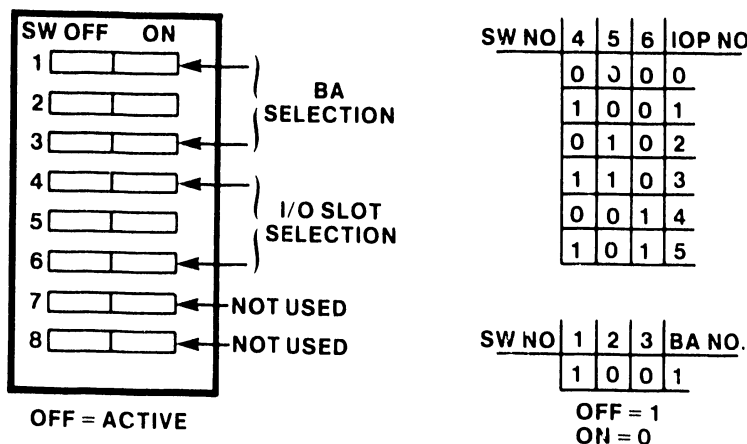

Figure 5-21. IOP Switch Settings (Except TC)
See figure 5-21 and the appropriate documents in Class 6200 for information pertaining to IOP switch settings (except TC IOPs, figure 5-28). Make sure that the device address for each IOP is unique to that assembly.
6. Check the IOP device address switch (figure 5-21)
11. Check the IOP device address switch (figure 5-21)